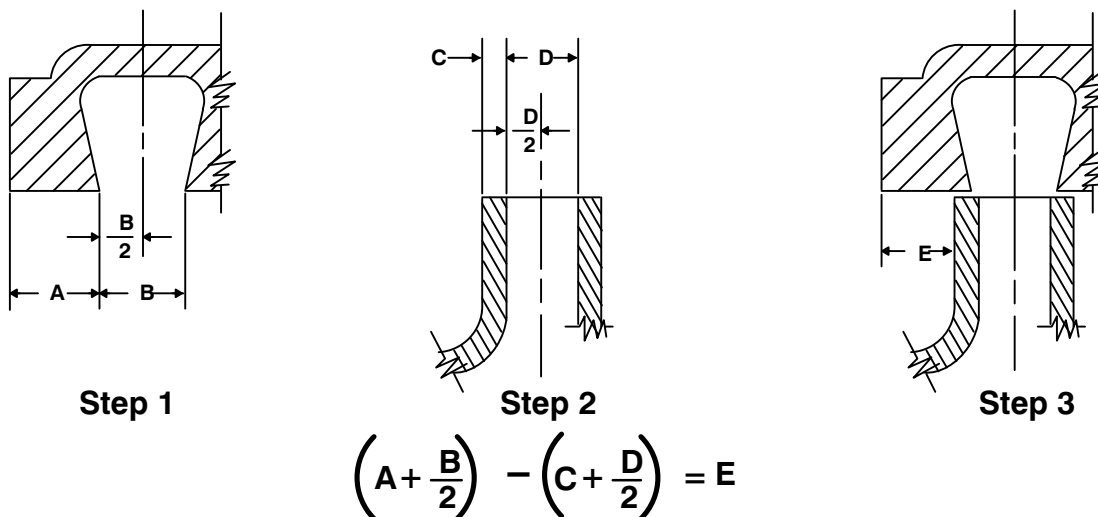

Figure 3. Centering Impeller Within Volute Scroll
To verify the impeller positioning, measure the pump casing and impeller as shown in Figure 3. Use these measurements to calculate the required impeller location (dimension E). Add or remove impeller adjusting shims (9) until dimension E is obtained.